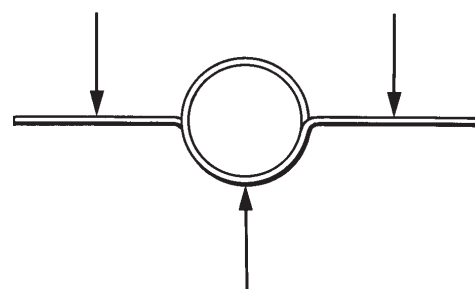

Fig. 2
2. Remove probe (if installed) and fit a pair of checking wires to the end of the probe tip, 90° relative to each other and a maximum 10 mm from the tip end - see Figures 2 and 3.